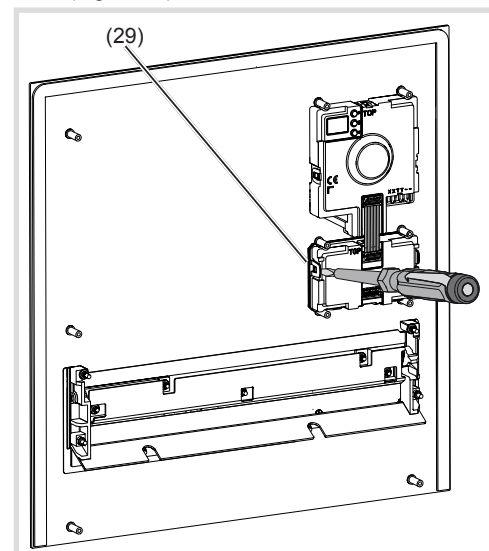

Figure 22: Unlatching the call push-button module insert
- To remove the call push-button module, unlatch the side retaining brackets (29) of the module mounting by carefully lifting up with a screwdriver (Figure 22).